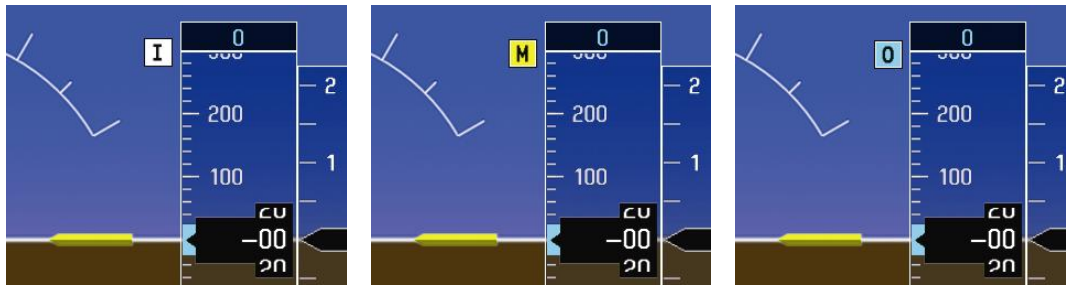

Figure 7-8. Marker Beacon Symbology
3. Verify that the outer, middle, and inner annunciations appear on the PFD when the corresponding signal is applied. Marker beacon annunciations appear at the upper left corner of the altitude indicator on the PFD as shown in Figure 7-8.